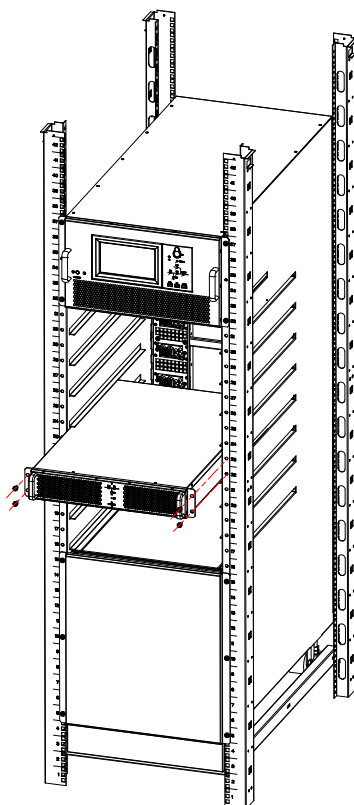

Figure 3-11 Insert module to cabinet
6. Insert module to cabinet, and lock the module panel screws, as Figure 3-11 shows: